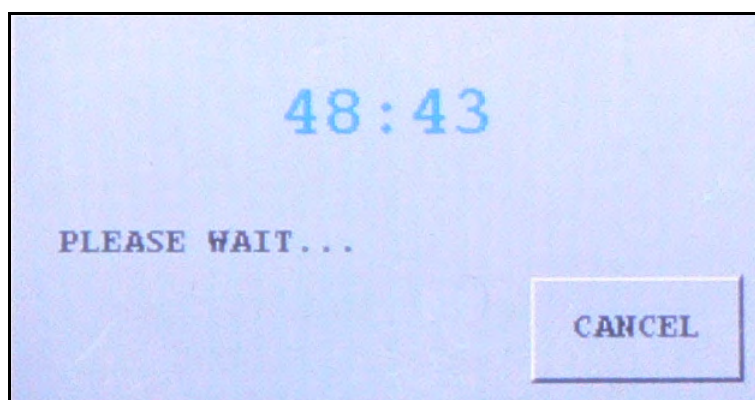

Figure 2-9 Helium Background Timer
- ☐ Background is changing, indicating the system is still pumping away background helium, a countdown timer appears (Figure 2-9). The VS system monitors the helium background and shows the time until the calibration begins. Should you prefer not to wait, a *Cancel* button permits the calibration request to be canceled.